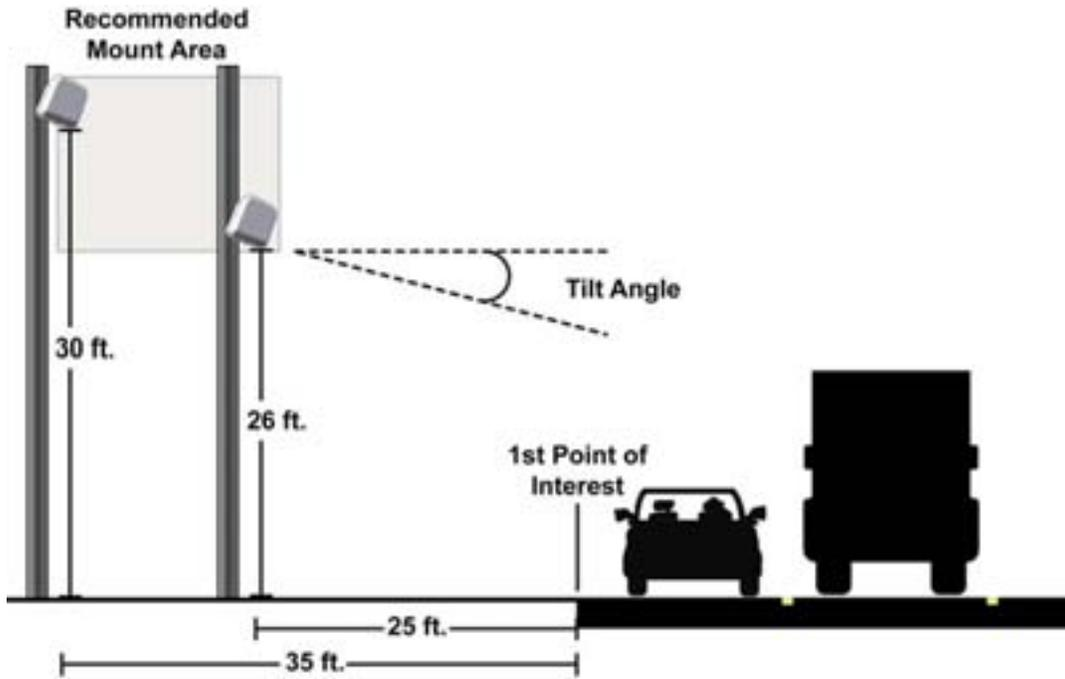

Figure 3 – Recommended Mounting Height
1. Firmly secure the SmartSensor HD to a pole or fixed location according to Table 1 below (see Figure 3 for mounting illustration).